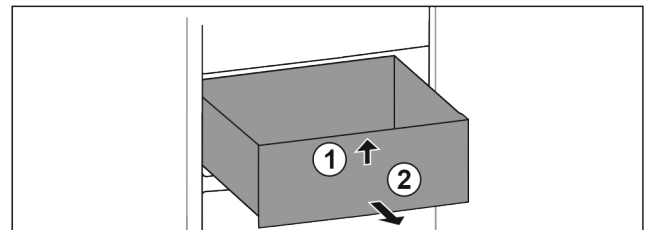

Fig. 86
- Lift up drawer at the front. Fig. 86 (1)
- Remove drawer to the front. Fig. 86 (2)